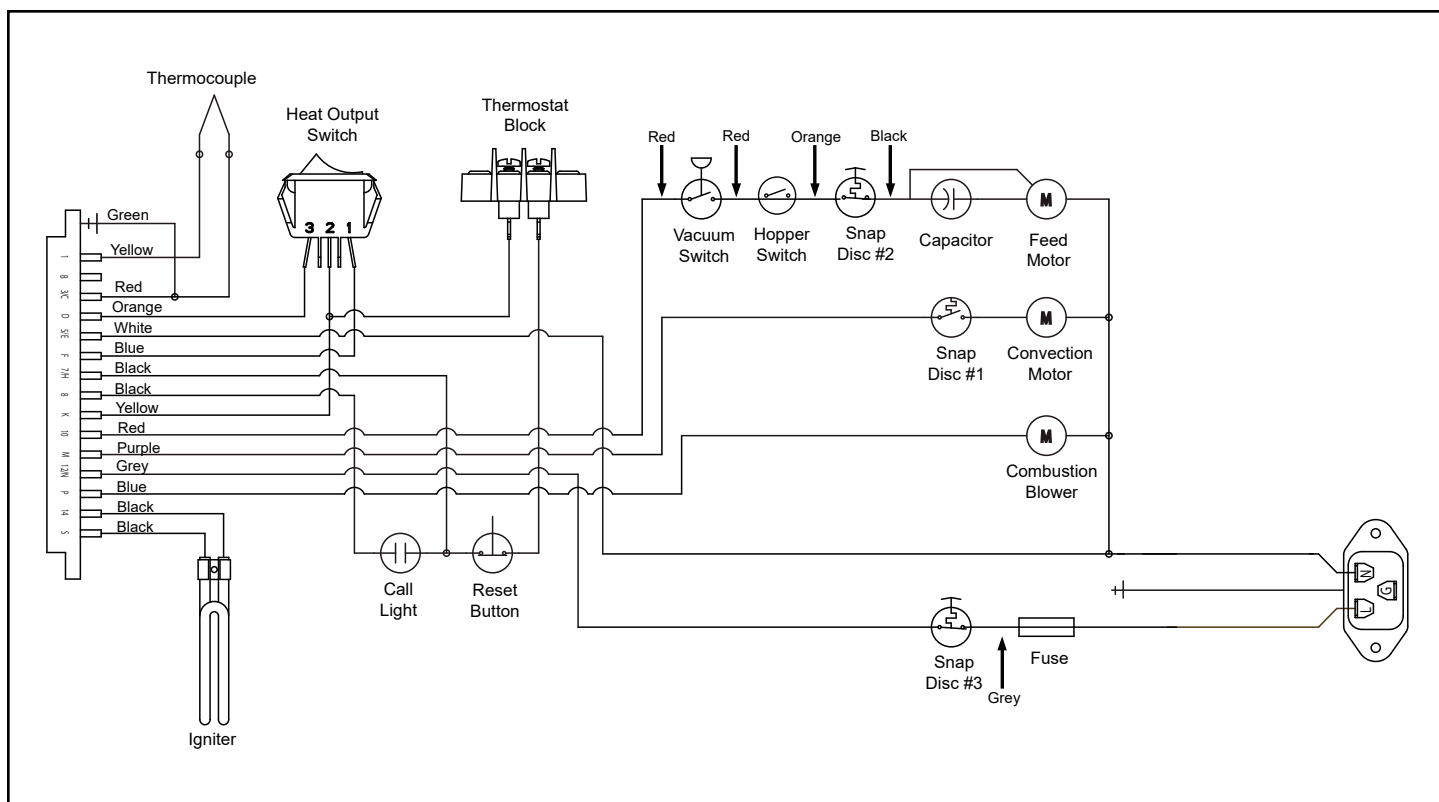

Figure 29.1
20. **Wiring Harness:** See Figure 29.1 below.